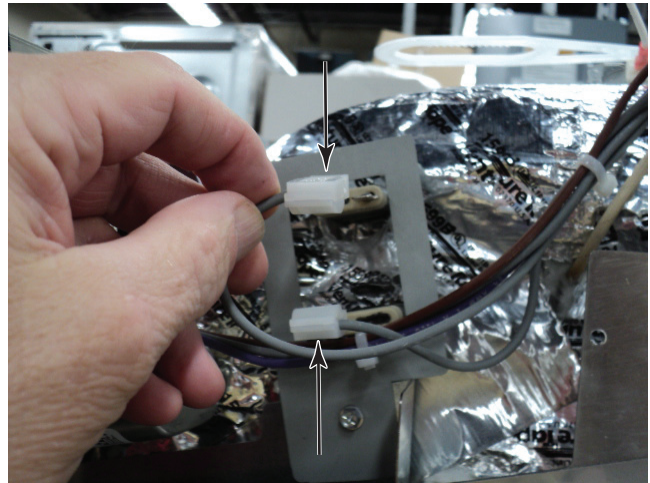

Figure 6
7. Disconnect convection element wires. (Figure 6).